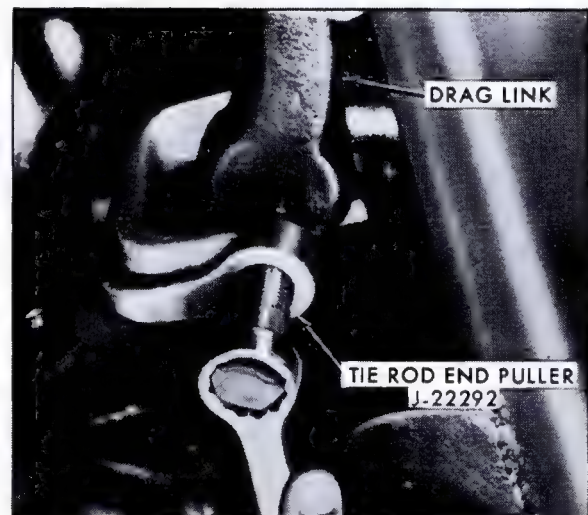

Fig. 9-58 Disconnecting Pitman Arm
4. Disconnect pitman arm from drag link using Puller, J-22292, Fig. 9-58.
4. Remove idler and pitman arm pivots from drag link using Puller, J-22292, Fig. 9-58.